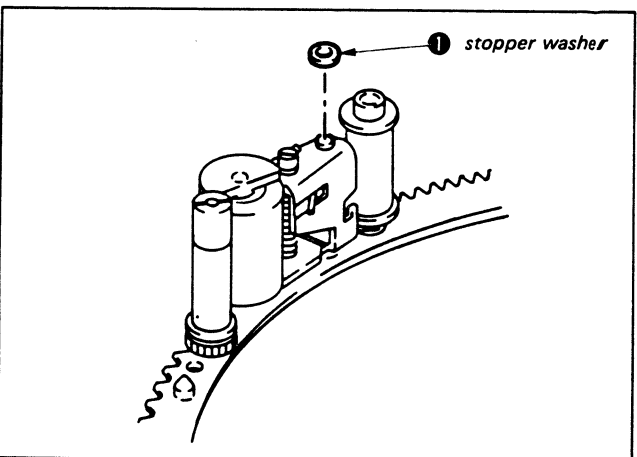

Fig. 3-21.
- 5) Mount the stopper washer ①. (See Fig. 3-21)